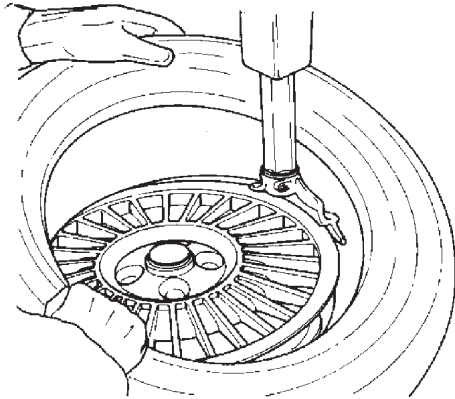

Fig.4.2-3
**B.** Lock the rim to the turntable and rotate it so that the valve is at the 2 o'clock position. Place the tire to be mounted on the rim. Swing the mount/demount arm in so that the mount/demount head is in the working position. (Fig. 4.2-3) Engage the lower bead OVER the mount/demount head and UNDER the mounting finger of the mount/demount head (Fig.20). Turn the wheel clockwise (right pedal down) while simultaneously pushing the tire down into the drop center, opposite to the mount/demount head.